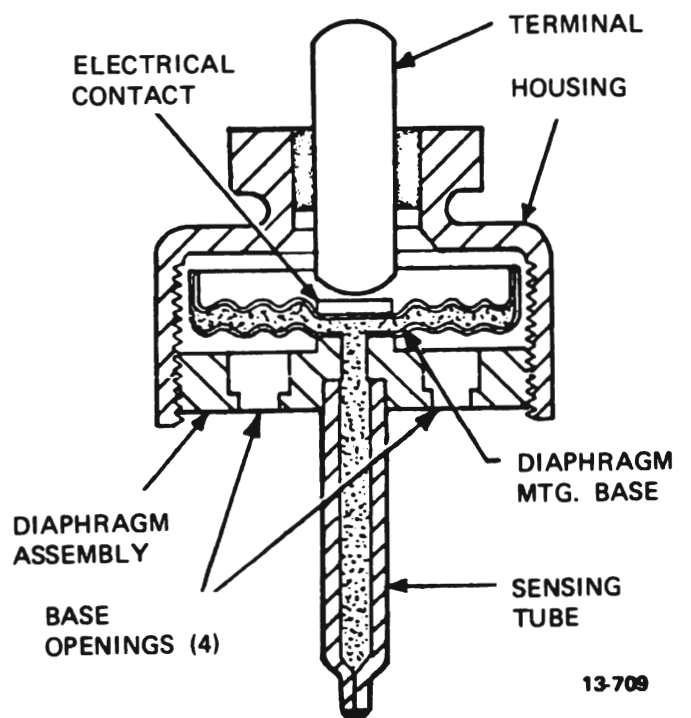

Figure 13-15 Cross Sectional View of the Superheat Shutoff Switch
**SUPERHEAT SHUTOFF SWITCH** - A cross sectional view of the superheat shutoff switch construction is shown in Figure 13-15. The assembly consists of the diaphragm, sensing tube, and base assembly which threads into the switch housing and terminal assembly. The switch terminal pin is hermetically sealed with a glass-to-metal seal in the switch housing. The diaphragm and sensing tube mounting base contains four (4) holes for passage of refrigerant vapor in and around the diaphragm, permitting the operating suction pressures to affect external diaphragm assembly pressure. The diaphragm and sensing tube assembly is charged with R-114 refrigerant and the sensing tube protrudes into the suction cavity of the rear compressor head to sense suction gas temperatures. The internal pressure of the diaphragm and sensing tube assembly is affected thermally by the suction gas temperature and the diaphragm affected externally by the suction pressure.